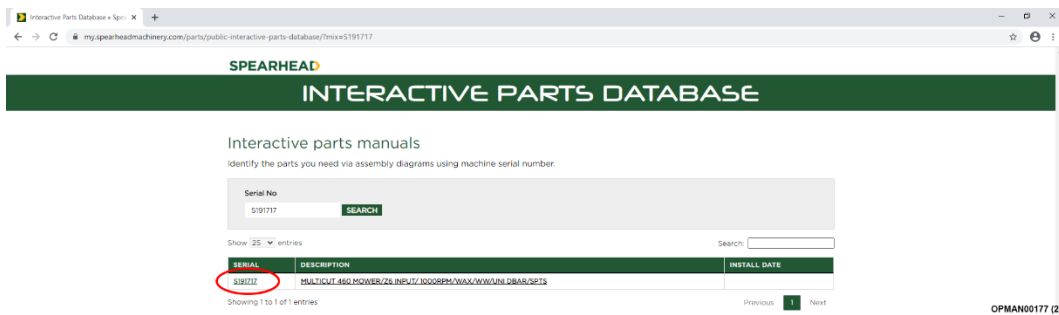

Figure 7.2 – Click On Serial Number
7.2.1.2 After entering the serial number a specification for the machine will appear. Click on the serial number; see Figure 7.2.